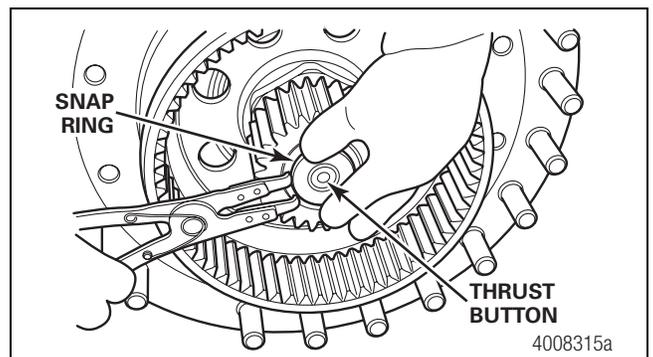

Figure 3.6
1. Remove the sun gear retaining snap ring from the end of the axle shaft. Figure 3.6.